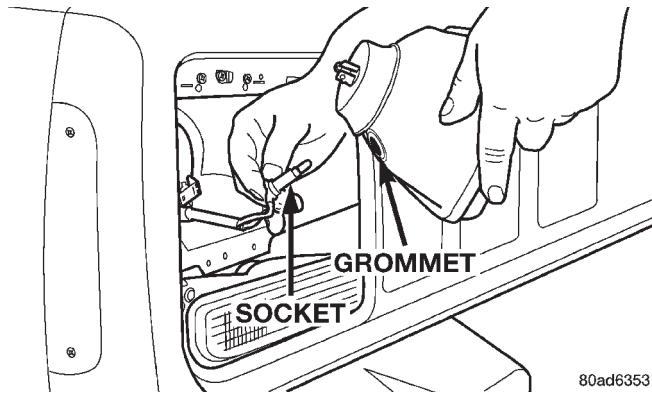

Fig. 4 Front Position Light
3. Pull the front position light socket from the rubber grommet and replace the bulb (Fig. 4).